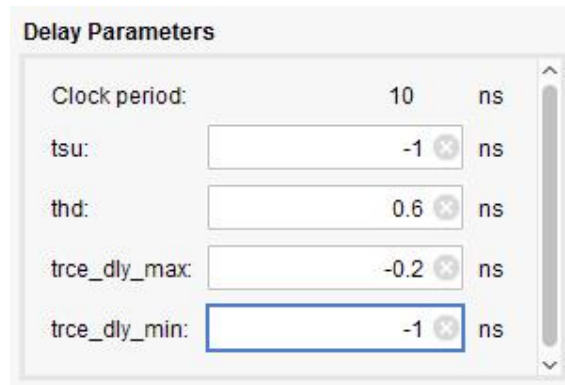

Figure 50
11. The sixth window deals with **Output Delays**. Vivado automatically recommends constraining all the output signals that are going to drive the LEDs. Select this bus signal and fill in the right table with the values shown in Figure 50. Check if everything is correct and click **Next**